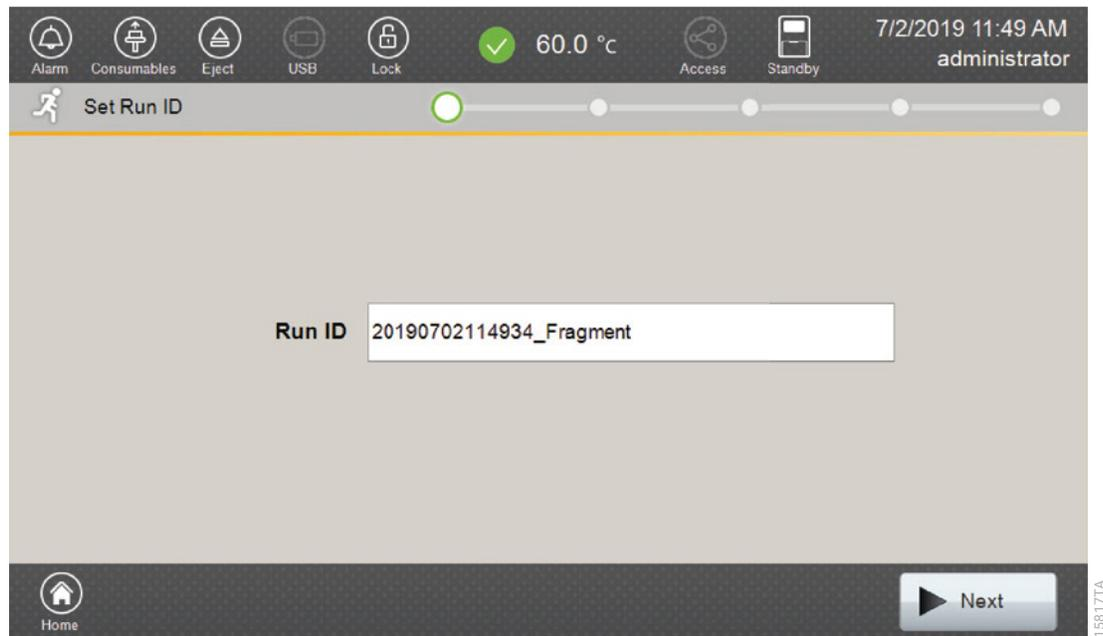

Figure 7. 'Set Run ID' screen.
4. Use the default name that includes date, time and “Fragment” or enter a Run ID on the ‘Set Run ID’ screen (Figure 7). Select the **Run ID** box to open the ‘Run ID’ window and a keypad will become active on the touch screen. Alternatively, the Run ID can be entered using a traditional keyboard if one is connected to the Spectrum Compact CE System.